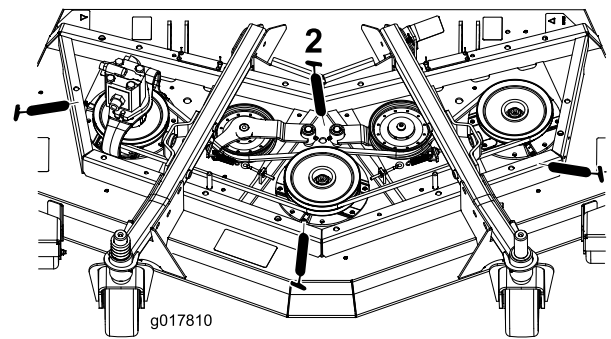

Figure 39
- 3 spindle-shaft bearings—located under the pulley (Figure 39)
- 2 idler-arm-pivot bushings (Figure 39)